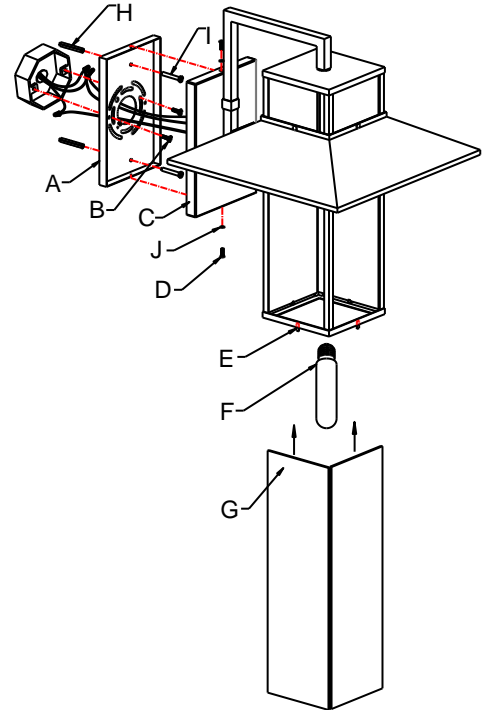

Fig. 2
CONNECTING THE WIRES (Fig. 2)
7. Connect the electrical wires as shown in Fig. 2, making sure that all wire connectors are secured. If your outlet box has a ground wire (green or bare copper), connect the fixture's ground wire to it. Otherwise, connect the fixture's ground wire directly to the mounting plate (A) using the green screw provided. After the wires are connected, carefully tuck them inside the junction box.